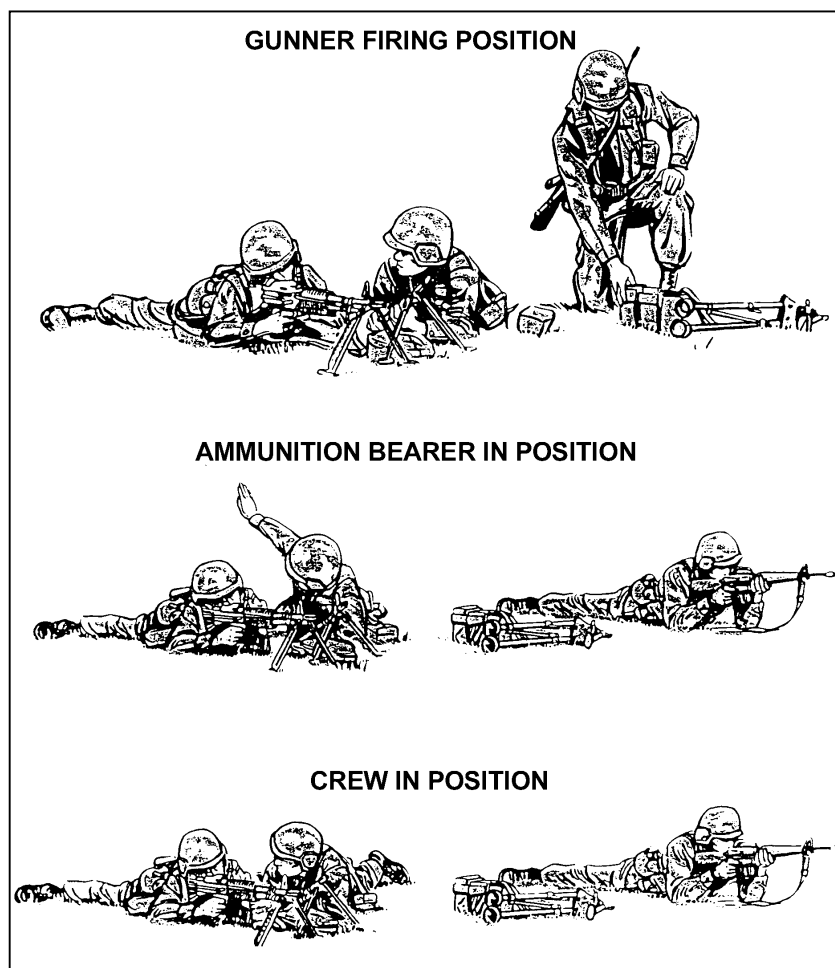

Figure 4-19. Crew members in firing position.
c. The assistant gunner times his movements so that he arrives at the position as the gunner is assuming the prone position. He lies prone on his left hip, feet to the rear, and on the left side of the gunner. He places the spare barrel case parallel to the gun with the zippered side towards the machine gun. He opens the case and removes the spare barrel. He places the spare barrel on the case, muzzle to the front and even with the muzzle of the machine gun. (Figure 4-19.)